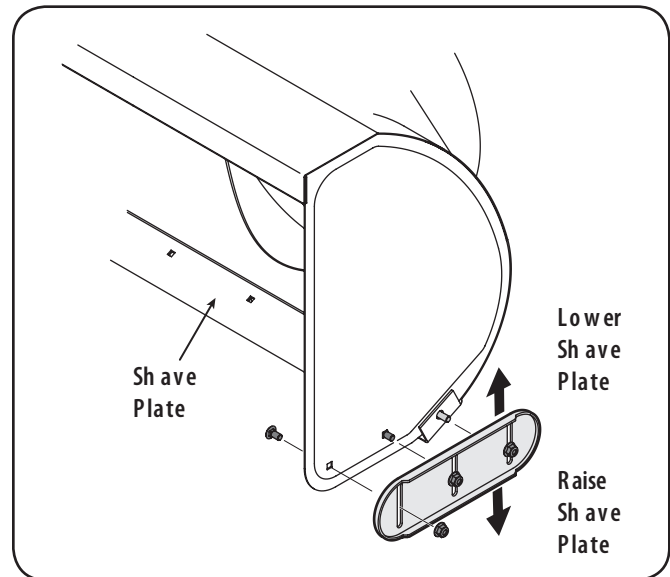

Figure 3-9
1. Adjust skid shoes by loosening the six (three on each side) hex nuts, washers, and carriage bolts securing the skid shoes to the auger housing. Refer to Figure 3-9.
2. While observing the distance between the shave plate and the ground, adjust the skid shoes up or down to achieve the desired shave plate height. See Figure 3-9.